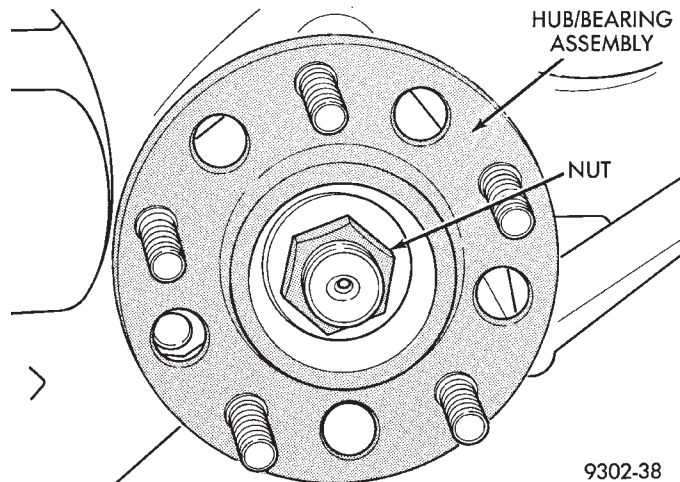

**Fig. 31 Hub And Bearing Retaining Nut**
(5) Remove the hub and bearing retaining nut (Fig. 31).
**CAUTION:** The hub and bearing assembly to stub shaft retaining nut (Fig. 31) is a prevailing torque nut and can not be re-used. A **NEW** retaining nut **MUST** be used when assembled.
(3) Install a **NEW** hub and bearing assembly to stub shaft retaining nut (Fig. 31). **Tighten, but do not torque the hub nut at this time.**